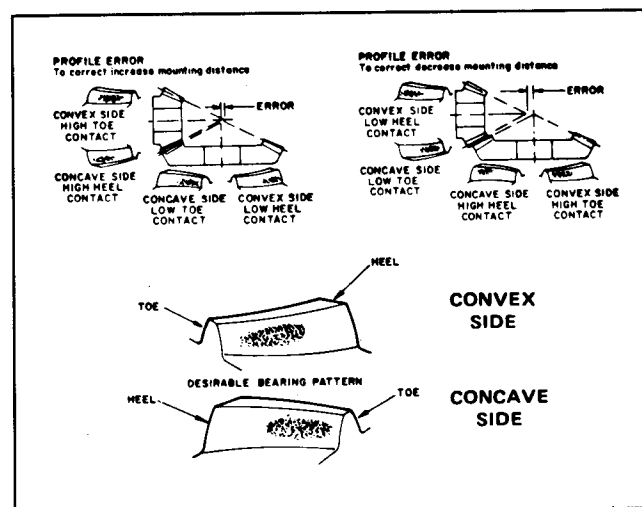

Figure 42
7. Inspect the wear pattern on the gear teeth, compare them to the patterns indicated in Figure 42. Add or remove shims from the output bearing housing to correct any misalignment.